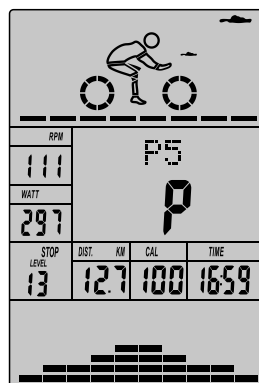

Fig 29
- Press START/STOP to begin exercise. (Fig 29)